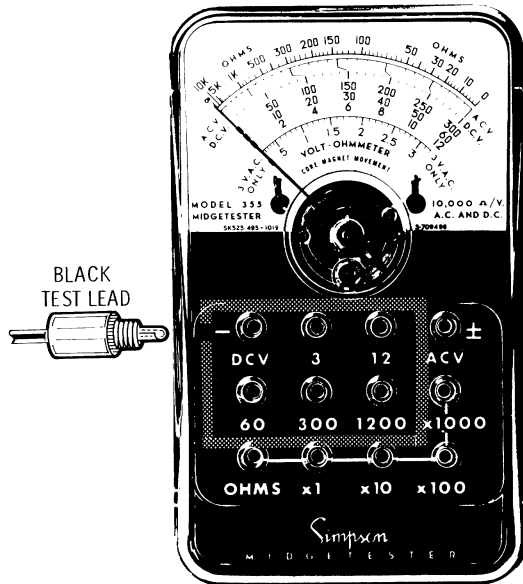

Figure 3-1. Contact Points For DC Voltage Selections
- Screw the red test lead into the 3V, 12V, 60V, 300V or 1200V jack as selected for the range required (see Figure 3-1). When in doubt as to the voltage present, always use a higher range as a cautionary measure to protect the Instrument.